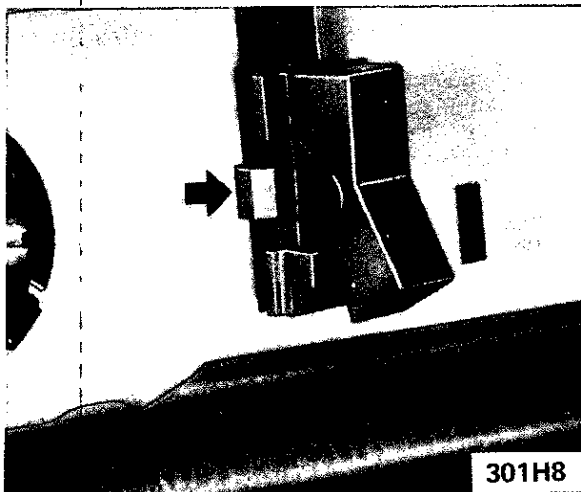

Figure 1H-8 . Removing Windshield Wiper Switch
2. **Compress** retaining clips and remove switch. See Figure 1H-8.